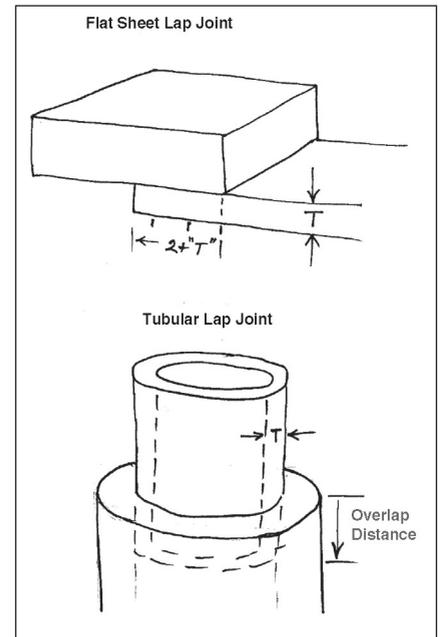

Fig. 1 — When joining aluminum base metals, the overlap should be only 1T to 3T, where T is the thickness of the thinner member.
**A:** As a general guideline, I suggest that the amount of overlap for aluminum brazed joints be about 1T to 3T, where T is the thickness of the thinner of the two aluminum pieces being joined. Figure 1 shows sketches of a sheet metal joint and a tubular joint with the recommended overlaps.